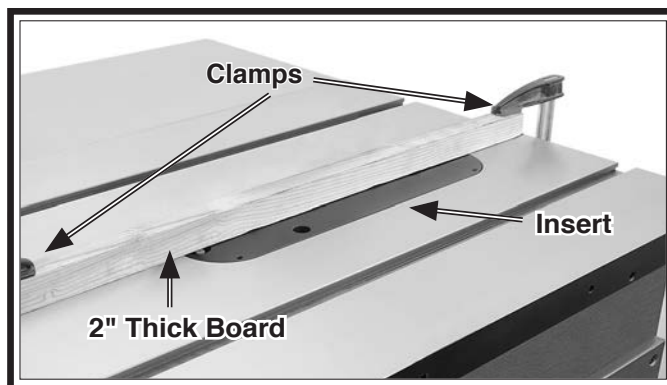

Figure 65. Securing insert with board and clamps.
5. Center a board at least 2" thick and equal to length of table over rear opening of insert, then secure it with clamps at both ends as shown in **Figure 65**. This will provide extra support for insert and reduce tear out when cutting.